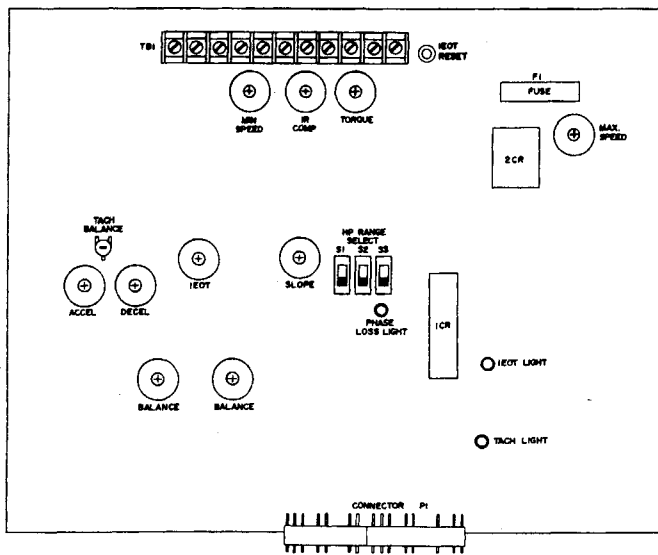

Figure 3.1
5. Depress start button. The loop contactor should energize at this point. If it fails to "pull in" check the status indicator lights on the control board. If any of the lights are "on" refer to the trouble shooting section of this manual. Also check the control circuit fuse F1, on the control board. (See Fig. 3.1)
4. Check for blown control circuit fuse (F1) on control board. (See Fig. 3.1)